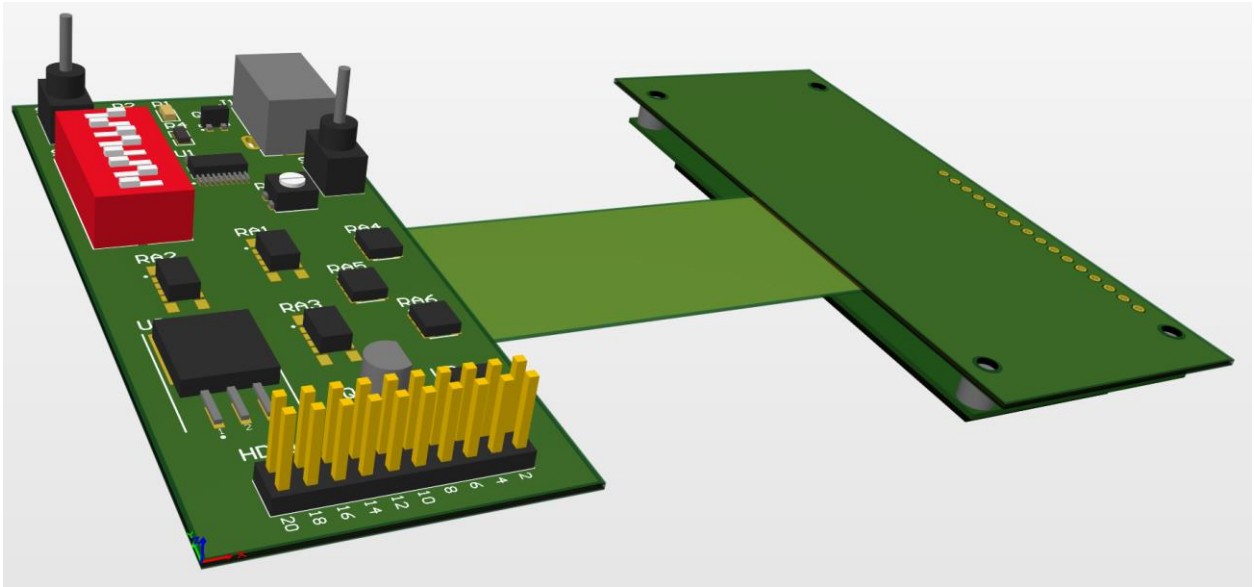

Figure 14. Position Rigid-Flex Design in 3D view
32. Position the board as below in Figure 14.